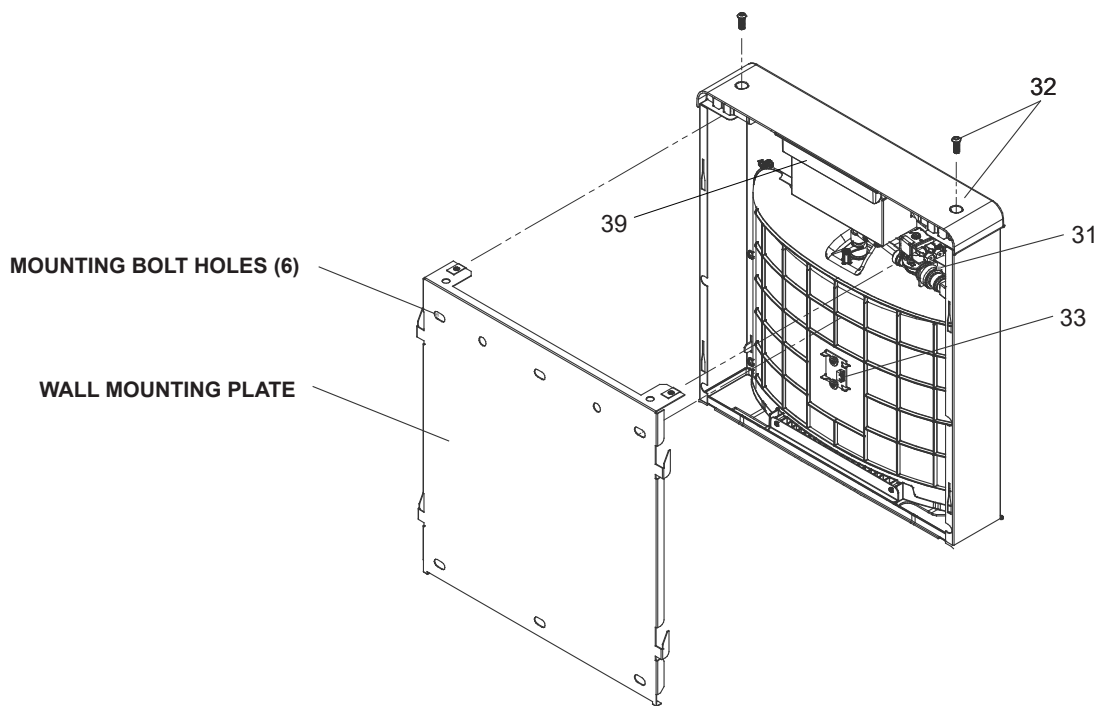

Fig. 8
- 8) Remove two (2) mounting screws with 5/32" Allen wrench holding bottle filler to wall mounting plate (See Fig.8, Pg. 5). Note do not discard mounting screws, they will be needed to secure bottle filler to wall mounting plate.
- 9) Remove wall mounting plate from Bottle Filler (see Fig 8, Pg. 5). Place wall mounting plate against wall on top of basin. Center the wall mounting plate side to side with the basin. Mark the six (6) mounting holes with a pencil. Place tape over wiring harness connection on top of cooler to prevent debris from falling into Connection.
- 11) Install wall mounting plate to wall using six (6) 7/16" obround mounting holes (mounting bolts not included) (See Fig.8, Pg. 5). Use appropriate fasteners for your wall type.
- 14) Place bottle filler on four (4) hooks on the mounting plate installed on wall. Make sure round boss in gasket fits in hole of basin. (See Fig. 8, Pg. 5).
- 19) Reinstall two mounting screws from first step (See Fig. 8, Pg. 5). Caution, do not over tighten screws.